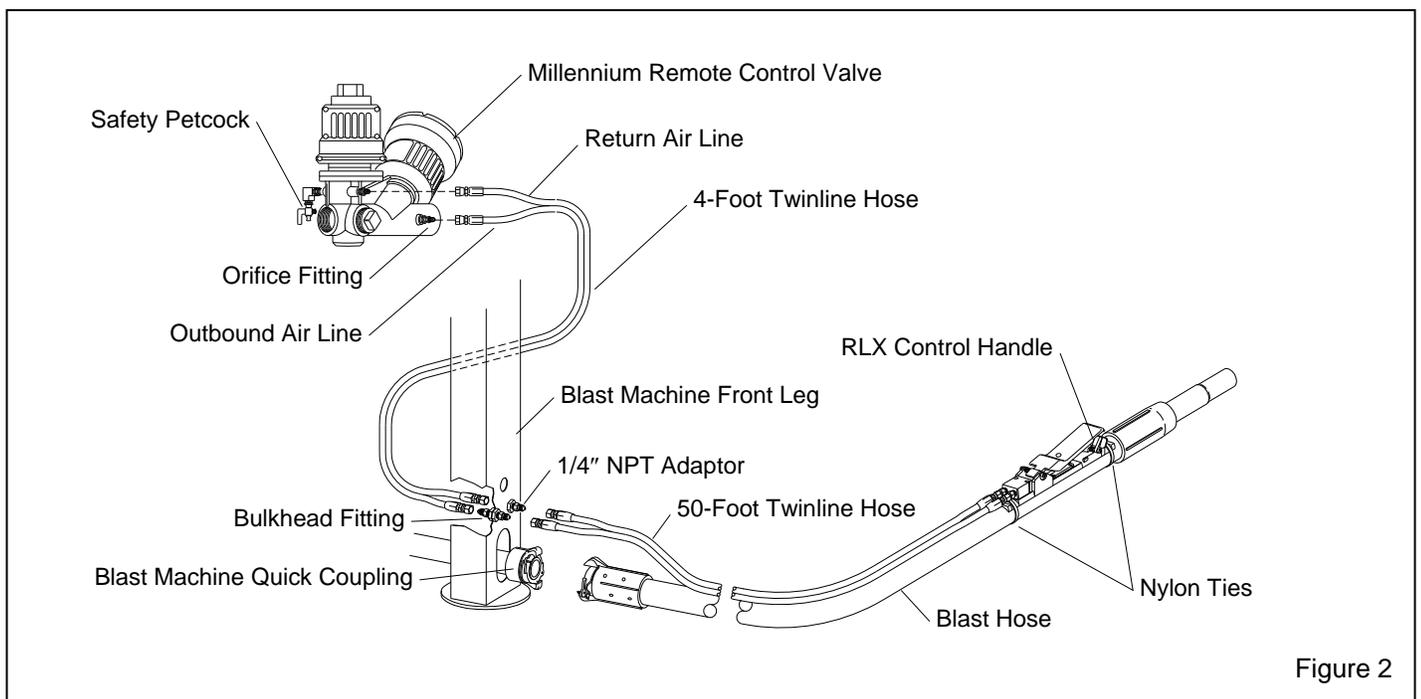

Figure 2
1.3.4.1 The components of the Millennium remote control system are shown in Figure 2. They include the Millennium Valve, RLX Control Handle, 50-foot twinline control hose and 4-foot long twinline control hoses, and all necessary fittings.
1.3.4.4 Millennium Remote Controls operate pneumatically on the "return air" principle (See Figure 2). One stream of air travels down the outbound twinline and escapes through an opening located under the control handle lever. As long as air escapes through the and escapes through an opening located under the control handle lever. As long as air escapes through the opening, the remote control system remains inactive. When the lever is pressed, the opening is sealed, and air from the outbound line returns through the return line to open the inlet segment and close the outlet segment of the Millennium valve. This action pressurizes the blast machine and begins the blasting process. Releasing the handle exhausts the control air, which closes the inlet segment, and opens the outlet segment to depressurize the machine and stop the blasting.
2.1 Blast Hose and Control Hose Connections, Ref. Figure 2.